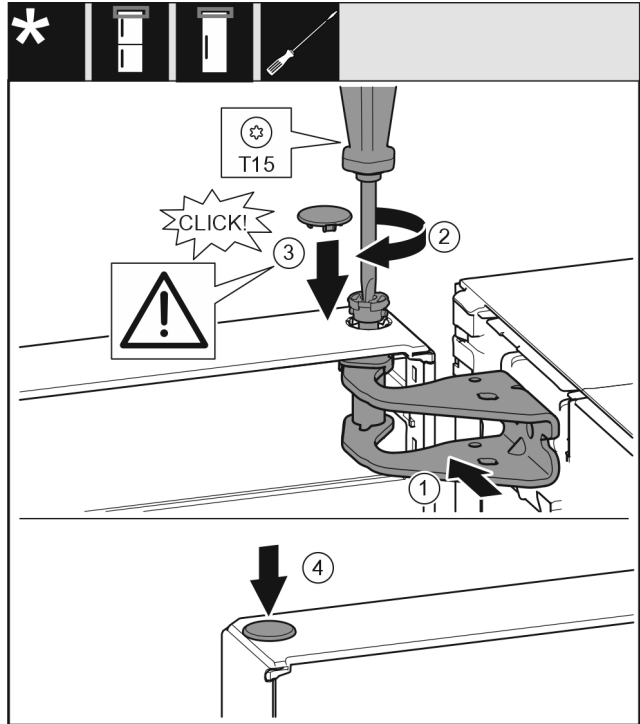

Fig. 20
- ▶ Align the top door with the opening in the swap bearing block Fig. 20 (1).
- ▶ Insert the bolt Fig. 20 (2) and use screwdriver to tighten it.
- ▶ Insert the cover Fig. 20 (3).
- ▶ Check that the cover Fig. 20 (3) is resting on the door.
- ▶ Insert the cover Fig. 20 (4).